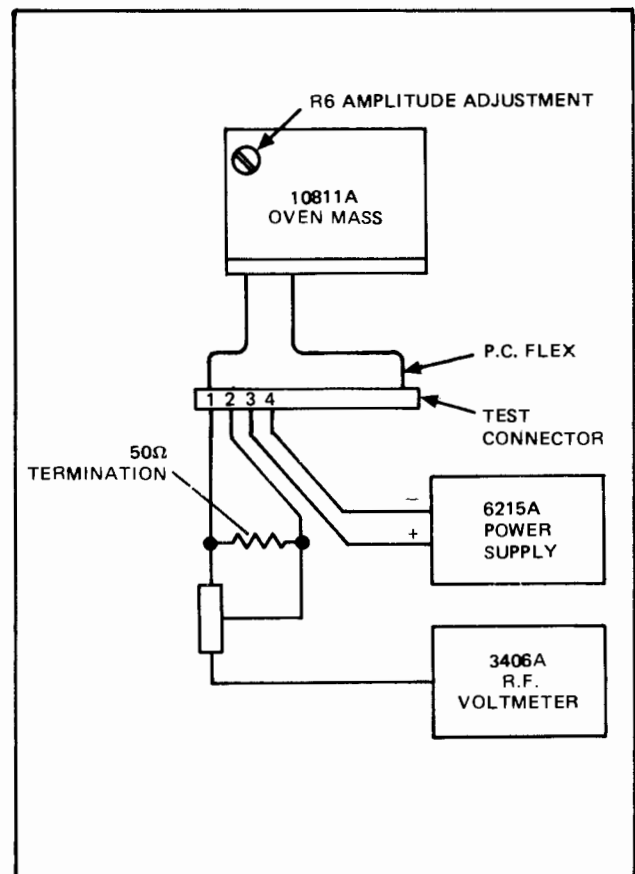

Figure 5-2. 10811A Amplitude Adjustment Set-up
- b. Connect pin 1 of the 15 pin pc connector through a 50Ω termination (use pin 2 as ground) to a 3406A Sampling Voltmeter. See Figure 5-2. **Do not apply power to the oven circuits.**